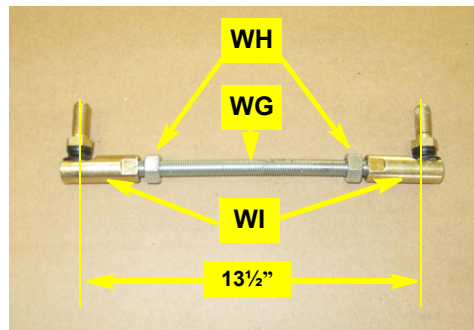

Figure 1d: Assembled threaded link rod
- d. Screw nuts **WH** and swivel rod ends **WI** onto rod **WG** to achieve a center-to-center stud measurement of 13½" (Figure 1d). Leave **WH** loose until you complete linkage adjustment at step 2f.